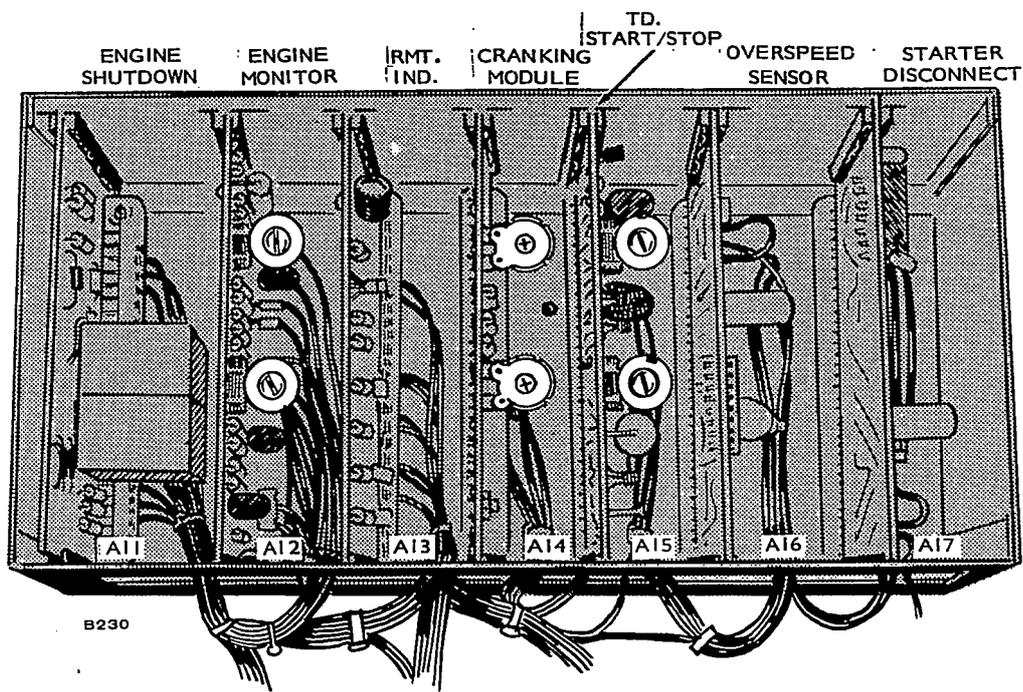

FIGURE 22. ENGINE CONTROL MODULE LOCATION
The following are brief descriptions of operating functions of the engine control modules shown in Figure 22. The term B+ is used to designate battery voltage (+24 VDC).
2. Remove Cycle Cranker module A14. See Figure 22.